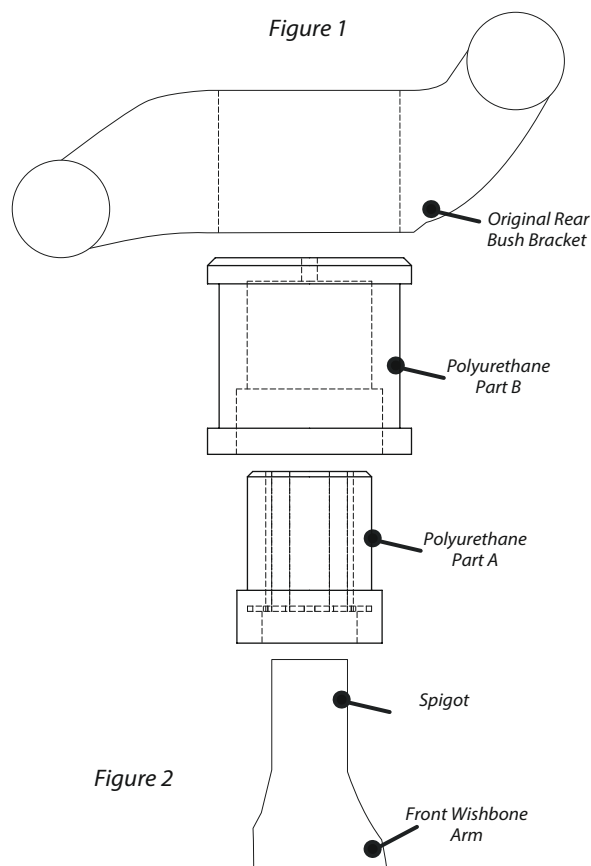

Figure 2
5. Fit polyurethane part B in the bracket, with the chamfered edge of the bush being pushed in towards the smaller diameter of the bracket, as shown in Figure 2.